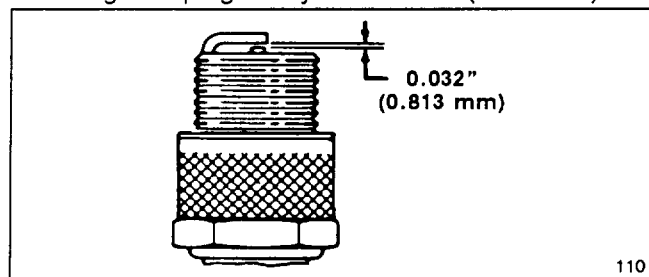

Figure 14
3. Set air gap at 0.032" (0.81 mm) (Fig. 14). Install correctly gapped spark plug and gasket seal. Tighten plug firmly to 15 ft-lb (20.4 N-m).